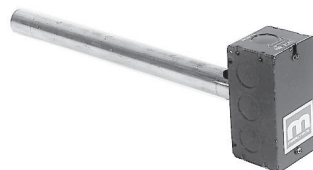

Figure 10. Sensor and Mixing Tube Assembly
- a. For units with sensor and mixing tube assembly (see Figure 10), remove ductwork access panel, slide mixing tube into ductwork, and secure sensor.